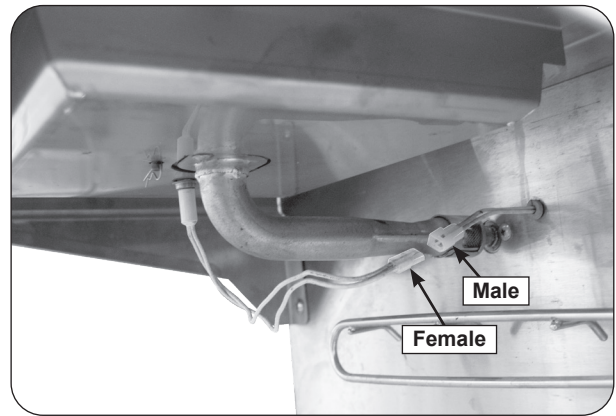

Fig. 28-1 Igniter wire connection
4. Connect the female connector on the end of the hot surface igniter wire to the male connector coming from inside the grill. See Fig. 28-1.